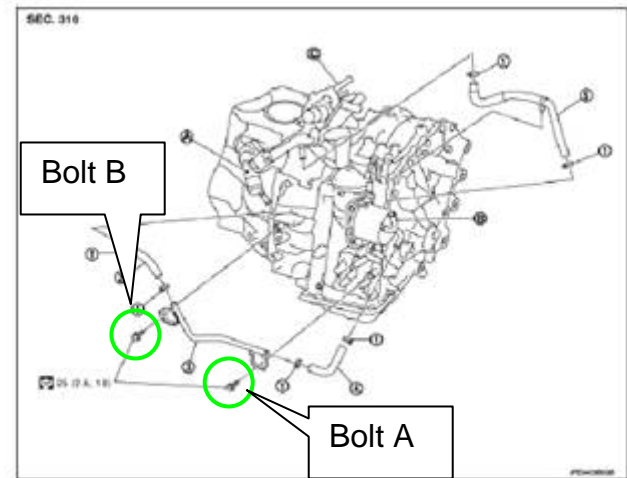

Figure 7
6. Remove "bolt A" and loosen "bolt B" for the Water Hose Bracket in Figure 7.